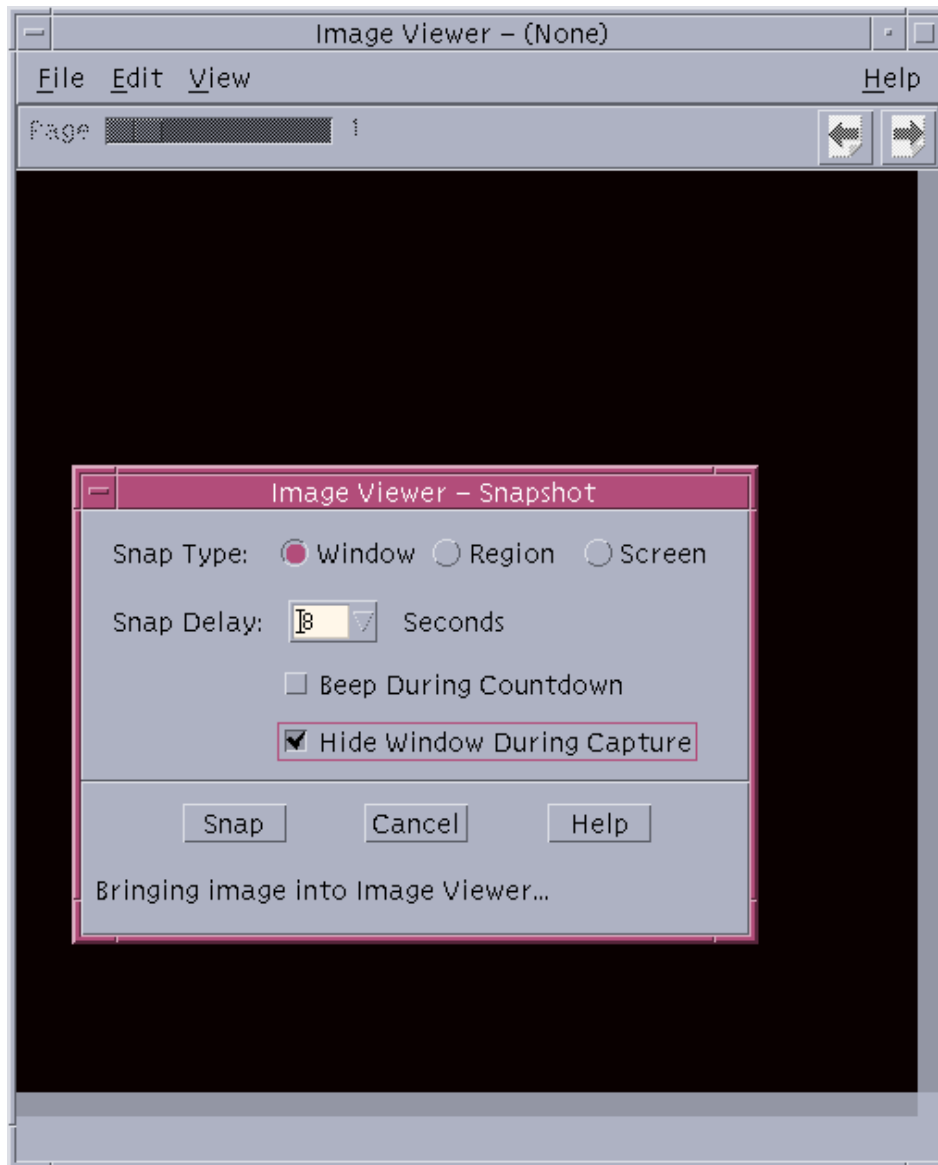

Figure 1 Image Viewer - Snapshot and blank Image Viewer before snapping any image.
7. Click on **Snapshot**. The two drop down menus will close and two new windows will open. The window titles are Image Viewer - Snapshot and Image Viewer - (None)(as shown in Figure 1). Once the selected window image is saved, None will be replaced by the filename.